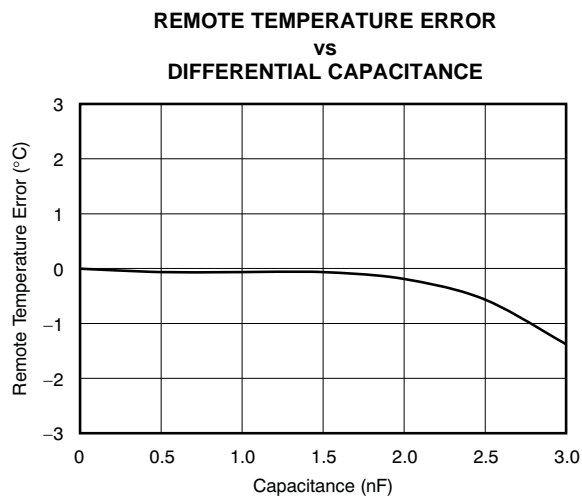

Figure 6.
(1) Diode-connected configuration provides better settling time. Transistor-connected configuration provides better series resistance cancellation.
(2) R_S (optional) should be $< 1.5\text{k}\Omega$ in most applications. Selection of R_S depends on application; see the Filtering section.
(3) C_{DIFF} (optional) should be $< 1000\text{pF}$ in most applications. Selection of C_{DIFF} depends on application; see the Filtering section and Figure 6, Remote Temperature Error vs Differential Capacitance.
(4) TMP422 SMBus slave address is **1001 100** when connected as shown.
The TMP422 tolerates differential input capacitance of up to 1000pF with minimal change in temperature error. The effect of capacitance on sensed remote temperature error is illustrated in Figure 6, *Remote Temperature Error vs Differential Capacitance*.